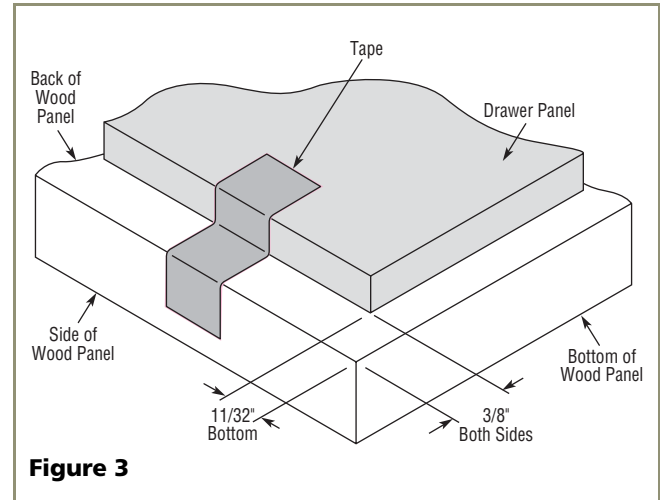

Figure 3
2. Place and tape the existing drawer panel on the back of the overlay panel (see **Figure 3**).